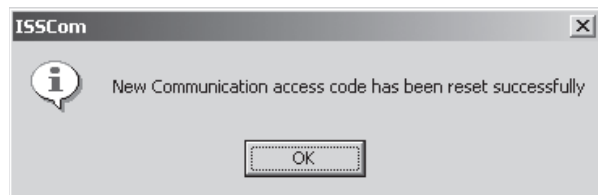

Figure 4-2 Communication Access Code Sent Confirmation Screen
3. Select **OK**, ISScom will display a Communication Access Code Sent Confirmation Screen (Figure 4-2).
3. Select **OK**, ISScom will display a New User Access Code Sent Confirmation Screen (Figure 4-2).